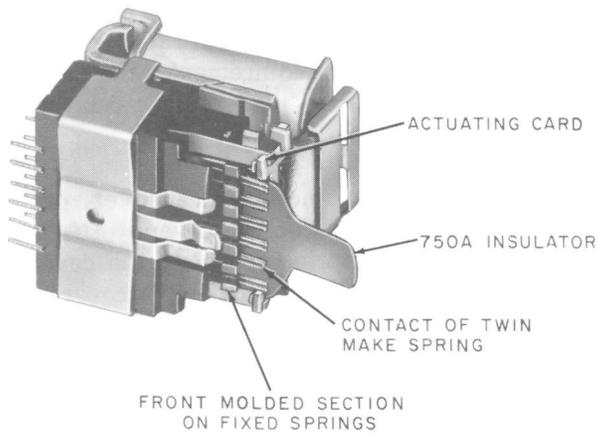

Fig. 5—Positioning 750A Insulator Under Contacts of Twin Make Springs
(1) To facilitate removing or mounting the actuating card, use the KS-8511 tweezers and KS-19916 magnifier.
(2) Before removing the actuating card it is necessary to provide protection against damage for the twin make contacts during card replacement and, in the case of frame mounted relays, to provide electrical insulation between the fixed and twin make contacts. To do this, use the 750A insulator as follows: Position the edge of the insulator against the contacts of the twin make springs and carefully lift the springs from the actuating card. Slide the insulator between the card and spring contacts until the insulator is positioned against the front molded section on the fixed springs as shown in Fig. 5.